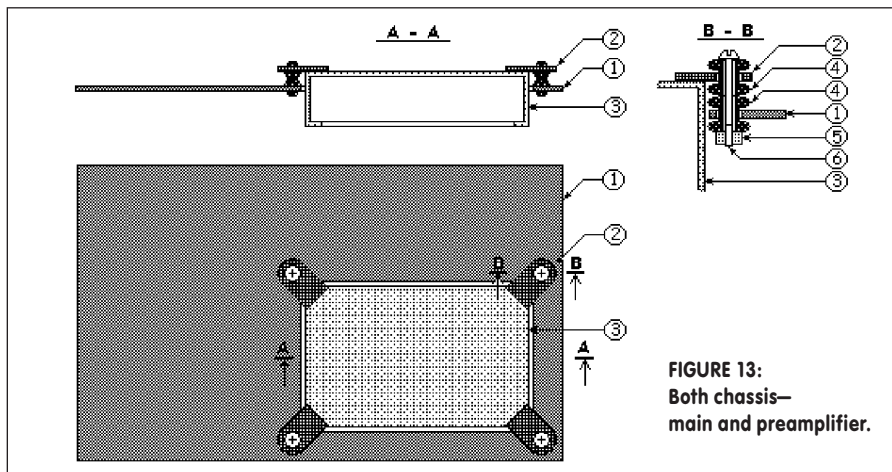

FIGURE 13:
Numbers in parentheses refer to **Fig. 13**. You should make the input stage on a separate chassis (3) and suspended against the main chassis (1) on rubber grommets (4) for vibroisolation. Solder four mounts (2) to the corners of the input stage chassis. Use two grommets on each corner to make this suspension softer. Screw (6) through the grommets and fasten with a nylon insert lock nut (5). I used grommets from laser pickup suspensions.